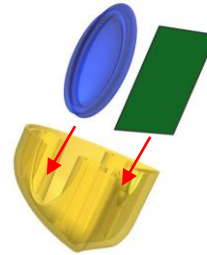

Fig. 6
5. Install the face (9) and circuit board (6) to the right head part (15). (Fig. 6)